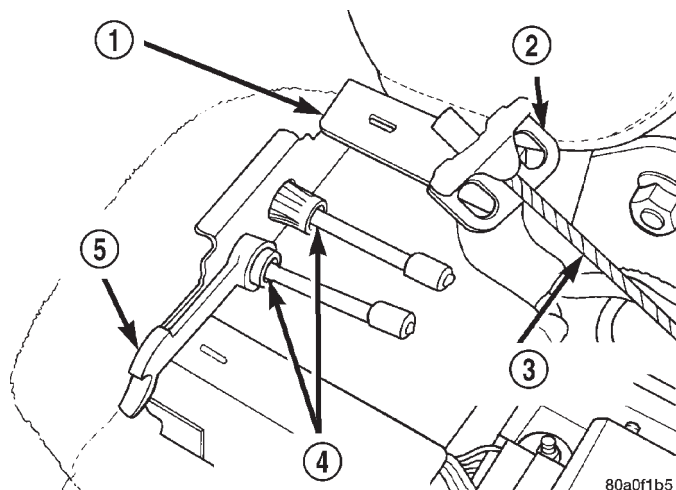

Fig. 141 Compressing Park Brake Cable Retaining Tabs
(18) Install the box end of a 1/2 in. wrench over the park brake cable retainer as indicated in (Fig. 141). This will compress tabs on park brake cable retainer, allowing cable to be removed from console bracket. From under carpet, grasp park brake cable housing and pull cable straight out of console bracket.
(19) Raise vehicle on jackstands or centered on a frame contact type hoist. See Hoisting in the Lubri-